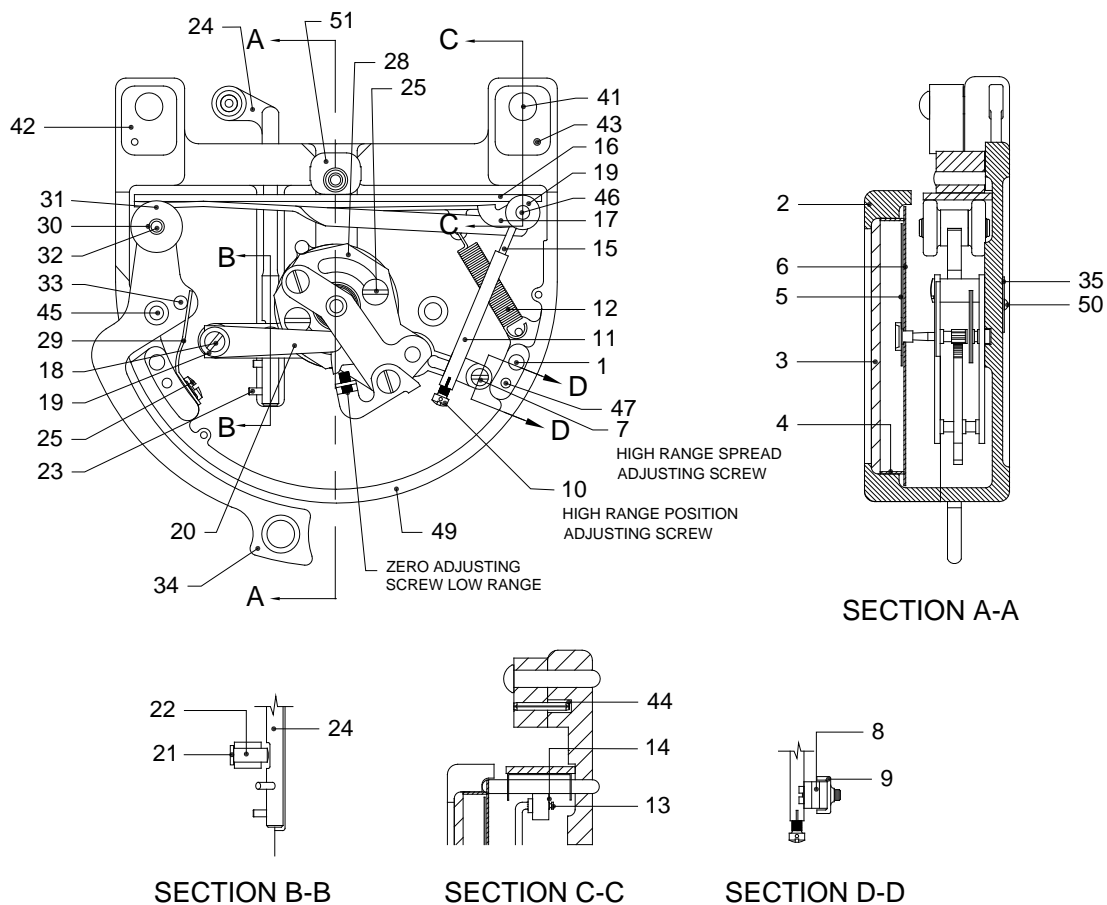

Figure 2-Detailed Description
- 2-3. **SECTORS AND RISERS-** The offset in the cable is affected by passing it between two hardened pivoting steel sectors (42 and 43) and a retractable hardened steel riser (51) located midway between the sectors. The riser rests on the mainspring leaf assembly and is held in position by riser clip assembly (17). The pivoting sectors function as rollers of large diameters to span the depressions between the cable and pivot slightly caused by offsetting of the cable. The pivots are held in their outward position by sector springs (44) set in recesses in the case (49), causing the sectors to bear against sector pivot pins (41) which are a press fit into case (49). (See Figure 2)
- 2-4. **TRIGGER-** In order to pass a tight cable between the two sectors (42 and 43) and over the riser (51), the riser is retracted by lowering one end of which is attached to the main spring pivot pin (46). The free end of the mainspring leaf assembly rests on two trigger rollers (31), which are attached to lever trigger assembly (34 See Figure 9) of the trigger assembly (30 thru 34). The lever assembly or trigger lever project from the side of the instrument case. Opening the lever assembly or trigger lever lowers one end of the mainspring leaf assembly (16, See Figure 2) and the riser (51). Closing the lever assembly or trigger lever raises the mainspring leaf assembly along with the riser, and therefore lever raises the mainspring leaf assembly along with the riser, and therefore creates the offset in the cable. An angled flat trigger spring (29) is provided to give an over center snap action to the lever assembly or trigger lever. The drawing of the T5-2000 Series Tensiometer on the title page shows the standard lever assembly used only on this series. The T5-8000 series utilizing a mitten grip is also depicted on the title page.
- 2-5. **MAINSRING-** The reaction of the cable offset bows the mainspring leaf assembly (16). An arm riveted to the fixed end of the main spring leaf assembly becomes tangent to the bowed mainspring leaf assembly, producing a substantial movement to the opposite free end of the mainspring leaf assembly.
- 2-6. **MOVEMENT AND LINKAGE-** The movement referred to in the preceding paragraph is transmitted by the linkage rod (15) and sleeve assembly (11) to the movement assembly (28). The linkage rod and sleeve assembly move as a unit, except when the pointer (5) is locked in position. The movement assembly is a self-contained brass unit comprised of a toothed segment meshing with a pinion gear on the pointed arbor. The outer end of the segment meshing with a pinion gear on the pointed arbor. The outer end of the segment consists of a slotted arm, to which the linkage rod (15) is attached. The purpose of the slot is to provide a means of adjusting the range of the Tensiometer. A hairspring is provided in the movement to eliminate backlash in the gears and to return the pointer to zero. An adjustable segment stop-screw (7) is provided to limit the travel of the segment, thus providing a more positive zero adjustment.
- 2-7. **BRAKE-** The brake lever rod (24) serves to lock the Tensiometer pointer in the event that dial (6) cannot be seen when taking a reading. The lock consists of two flat bronze springs (20 and 21). The longer brake spring (20) is set to normally bear against the segment of the movement, to hold it by friction when the brake lever is in the locked position. The shorter brake plunger spring (21) is to provide a snap action to the brake lever rod. Rotating the brake lever rod (24) lifts the two springs by means of brake plunger (22), which normally rides on a recessed flat in the brake lever rod.
- 2-8. **NON-OPERATING PARTS-** The foregoing covers the operating parts of the Tensiometer. The remaining parts are the case (49) on which all the operating parts and the dial (6) are mounted, and the cover (2) into which the glass (3) and bezel (4) are fitted.
KEY TO FIGURE 2